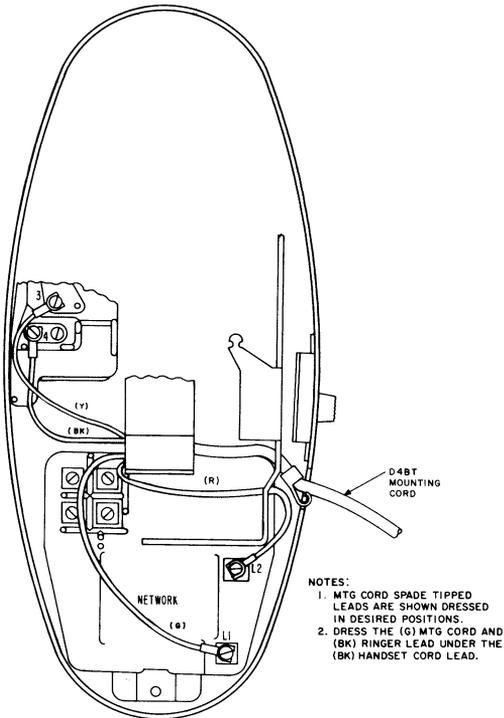

Fig. 4—Method of Terminating D4BT Mounting Cord on Sets With 4010-Type Network (See Notes 1 and 2)
1.04 Figure 4 or 5 indicates the termination of the D4BT mounting cord in sets equipped with 4010- or 4228-type networks, respectively.